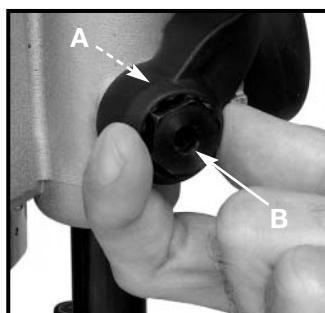
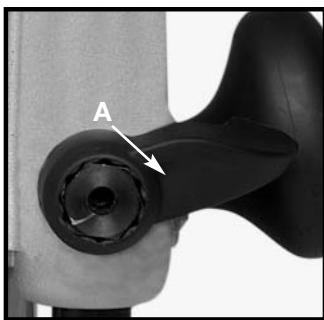
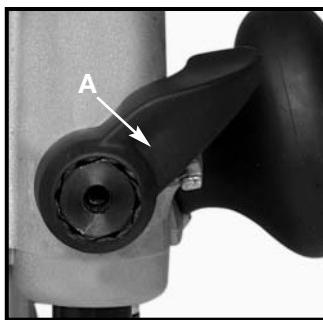

Fig. 16
Fig. 17
Fig. 18
3. Push in on the plunge locking lever (A) Fig. 16 to expose the head of plunge-locking bolt (B) Fig. 16.
4. While holding plunge-locking lever in (A) Fig. 16, turn plunge-locking bolt (B) Fig. 16 clockwise to turn the plunge-locking bolt in or counterclockwise to turn the plunge-locking bolt out. Turn it one position at a time until proper adjustment is achieved. Proper adjustment is indicated when the plunge-locking lever (A) Figs. 17 and 18 can be locked into the free motion position (Fig. 17), and into the plunge-locked position (Fig. 18).
5. Move plunge locking lever (A) Figs. 17 and 18 halfway between those two positions. Insert the hex wrench through the center of the plunge locking bolt (B) Fig. 17 into adjustment screw. Turn clockwise to tighten.
The lower switch (B) Fig. 19 is convenient for the operator to turn the tool “ON” or “OFF” with the thumb of the left hand while holding the tool (Fig. 16).